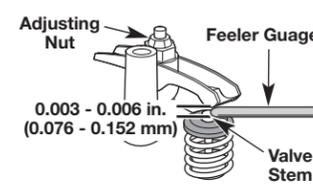

Fig. 22
8. Use a feeler gauge to measure the clearance between one of the valve stems and its corresponding rocker arm (Fig. 22). Repeat this process for the other valve stem and rocker arm. The recommended clearance is **0.003 – 0.006 in. (0.076 – 0.152 mm)**. Use a standard automotive **0.005 in. (0.127 mm)** feeler gauge. The feeler gauge should slide between the rocker arm and valve stem with a slight amount of resistance, without binding (Fig. 22).
- Turn the adjusting nut with a 5/16 inch (8 mm) wrench or nut driver (Fig. 22).